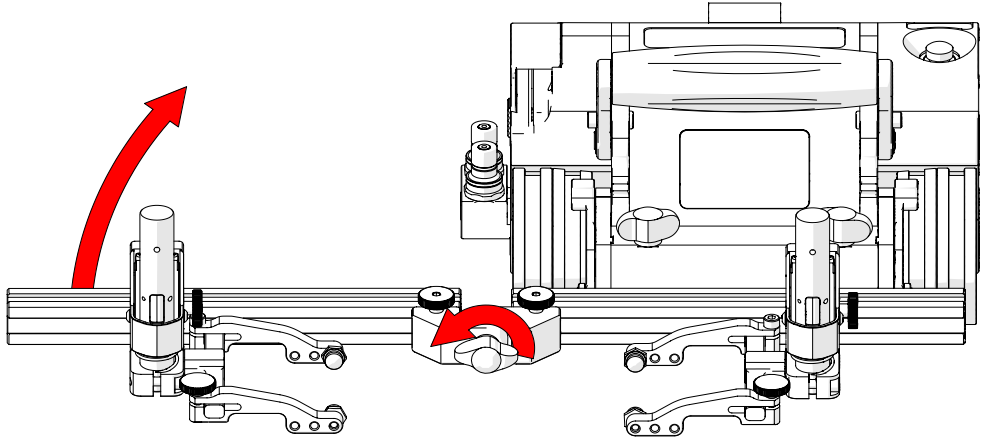

Fig. 156 - Lift frame bar to avoid interference
2. Loosen the pivot wing knob and raise the frame bar to an angle greater than the surface to be scanned (Fig. 156). Tighten the pivot wing knob and place crawler on scan surface (see "Placement of Crawler on Inspection Surface" on page 87)